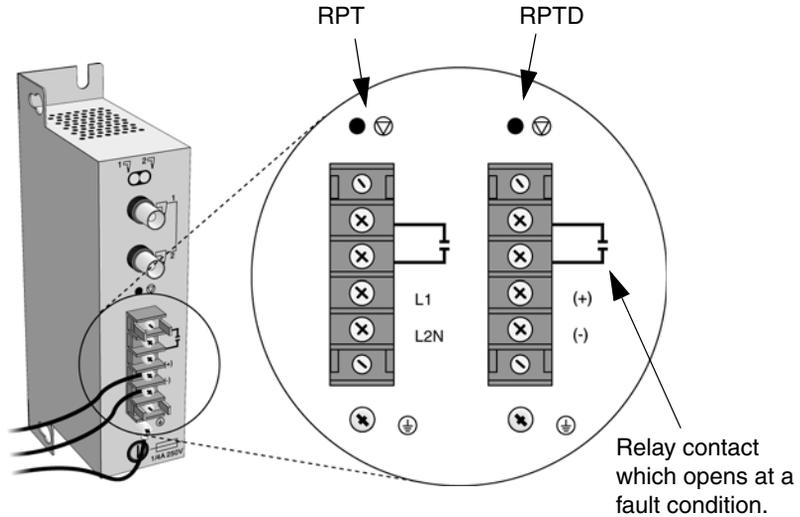

Figure 73. Connection of the power to the repeater.
2. Connect the power to the repeater, see Figure 73.